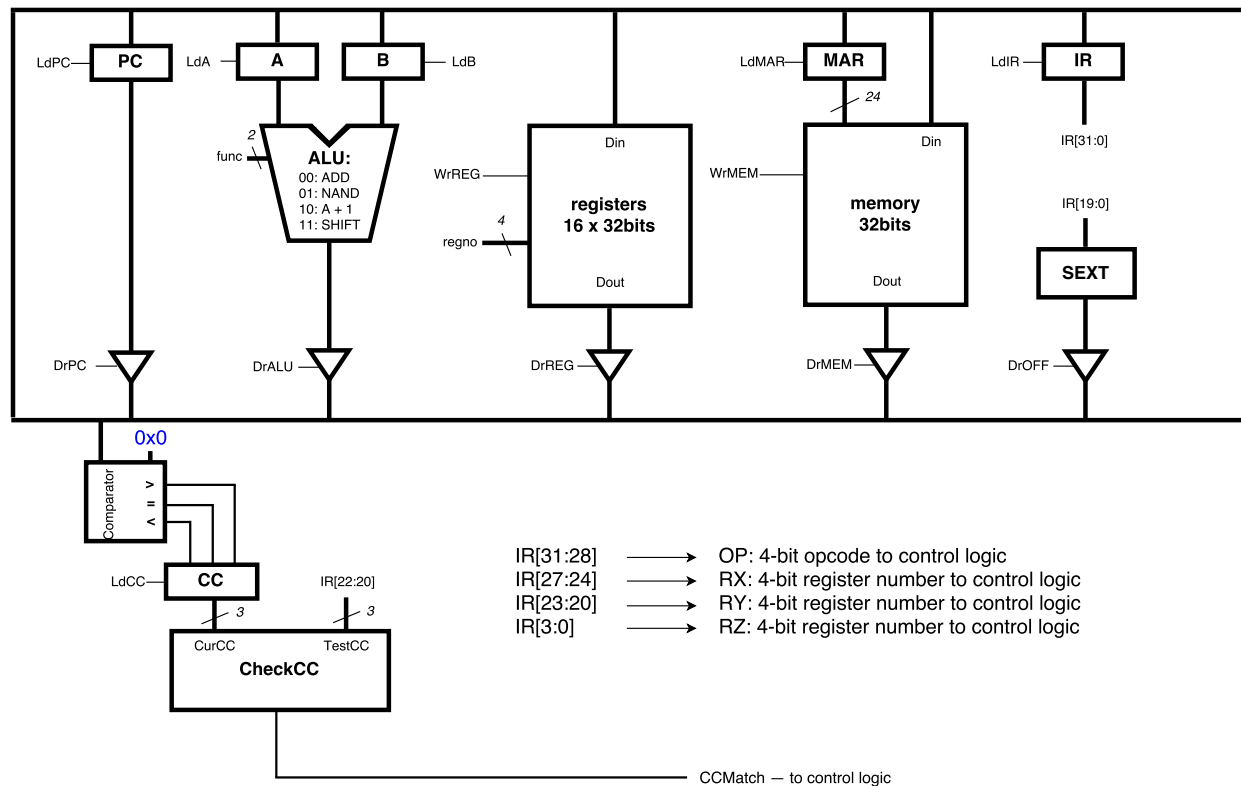

Figure 1: Datapath for the LC3-2200a Processor
2. Using Logisim, implement the LC3-2200a datapath. To do this, you will need to use the details of the LC3-2200a datapath defined in Appendix A: LC3-2200a Instruction Set Architecture. You should model your datapath on Figure 1.
To implement the BR instruction, you need to design and implement the CheckCC module indicated in Figure 1. The CheckCC module takes as input the current condition codes from the CC register, as well as the N, Z, and P bits from the instruction. The module then uses combinational logic to produce the CCMATCH bit for your control logic.
2. Implement the Microcontrol Unit using Logisim. The appendix contains all of the necessary information. Take note that the input and output signals on the schematics directly match the signals marked in the LC3-2200a datapath schematic (see Figure 1).
3. Connect the completed control unit to the datapath you implemented in Phase 1. Using Figures 1 and 2, connect the control signals to their appropriate spots.